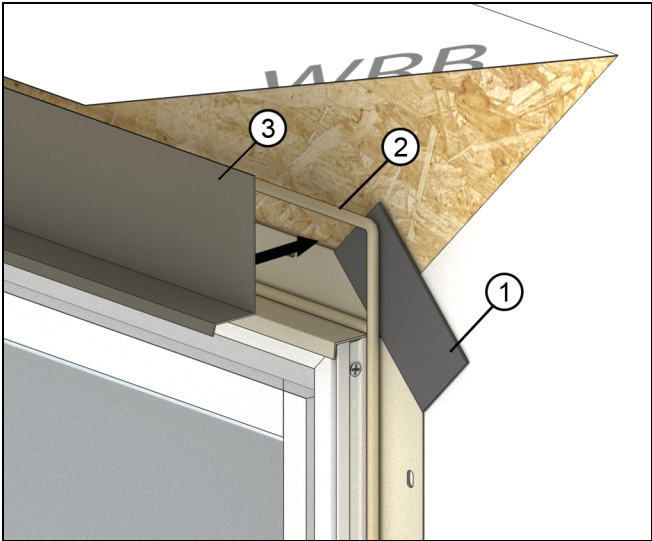

Figure 59
2. Required on wood units/optional on clad units: Install a rigid head flash at the head jamb. Be sure to apply a bead of sealant along the back sides of both vertical and horizontal surfaces of the cap that come in contact with the door, door casing, and/or sheathing. When an integral vinyl drip cap is installed, cut the vinyl drip off before using a rigid head flash. See Figure 59.